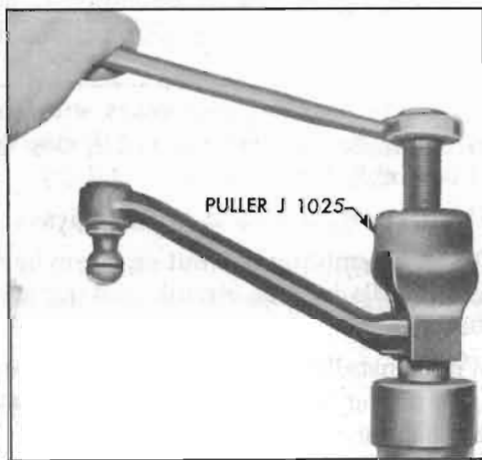

Figure 7-11—Removing Pitman Arm with Puller
1. Remove nut, lock washer, and pitman arm using Puller J 1025 to remove pitman arm; *the gear assembly will be damaged if arm is driven or pried off pitman shaft.* See figure 7-11.